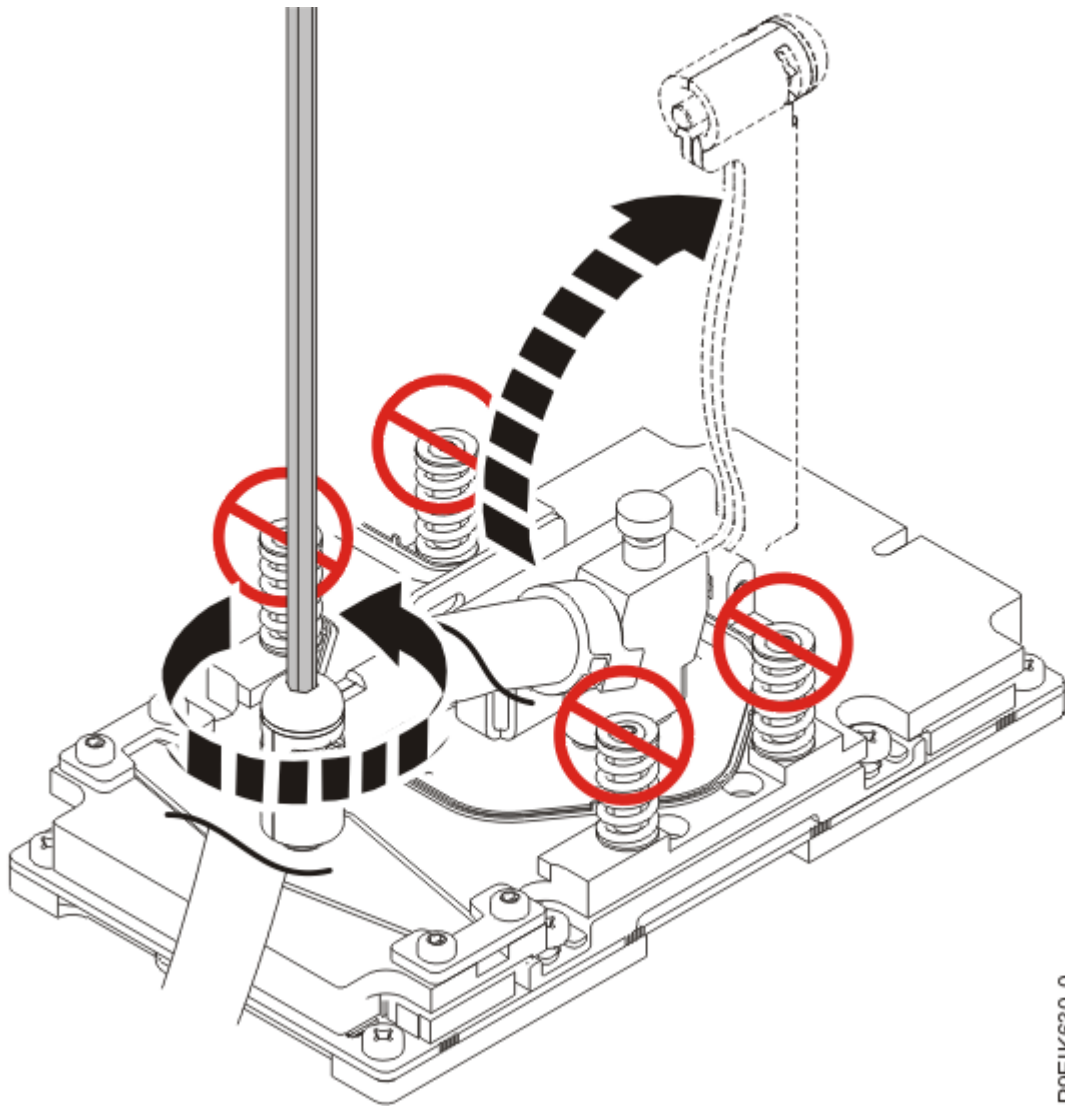

Figure 84. Open the cold plate retainer
- a) Loosen the cold plate retainer screw from each of the 2 or 3 GPUs and swing each retainer open as shown in Figure 84 on page 93.